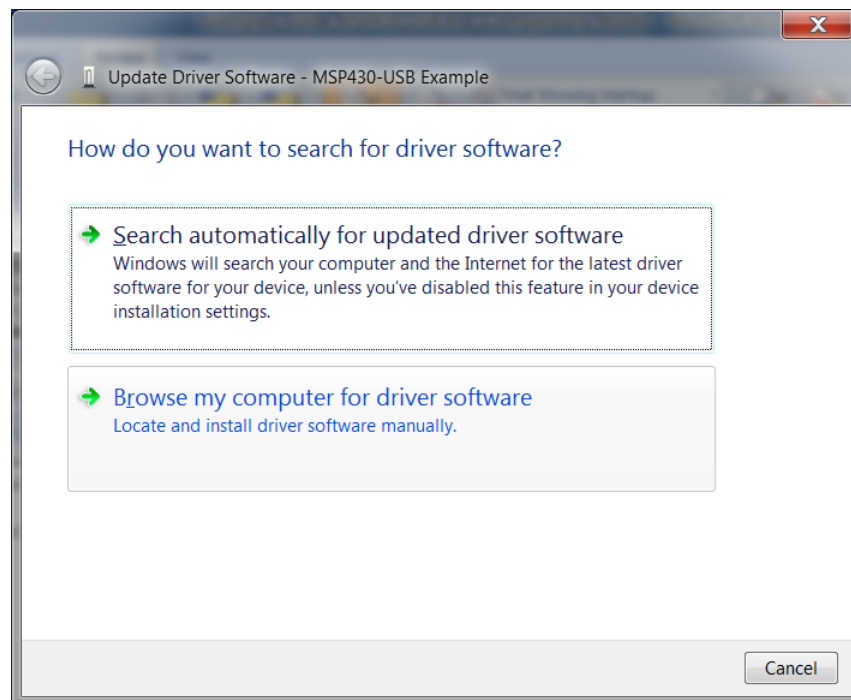

Figure 26. Update Driver Software Window
3. Choose the *Browse My Computer for Driver Software* option (see Figure 26).